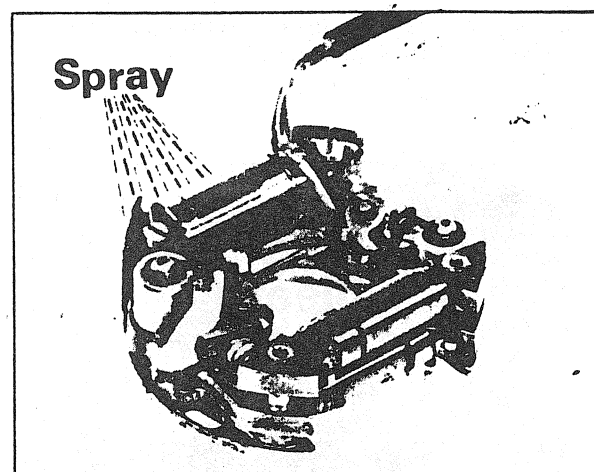

FIGURE 38
- Spray "crystal clear" on the armature plate (fig. 38). Allow 5 minutes to dry.